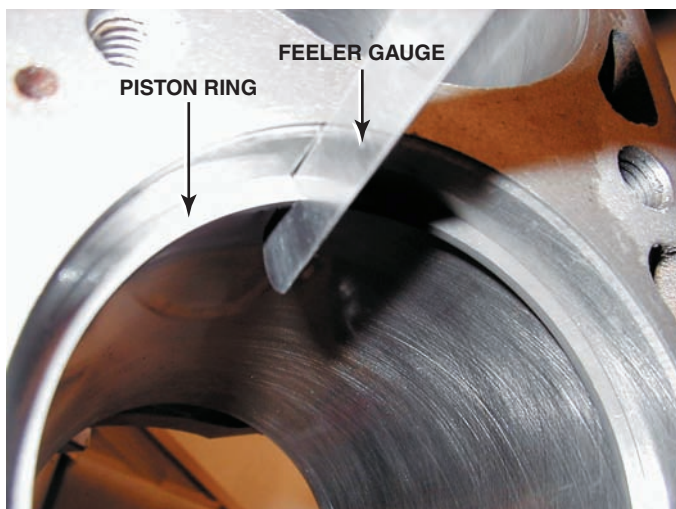

FIGURE 7-17 A feeler gauge, also called a thickness gauge, is used to measure the small clearances such as the end gap of a piston ring.
- Piston ring gap (● **SEE FIGURE 7-17.**)